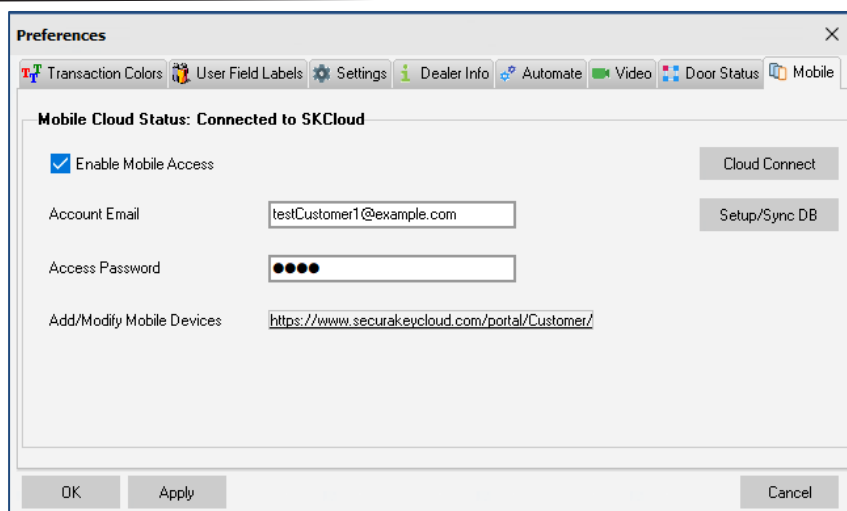

Figure 2 – SK-NET Mobile Preferences Screen
In SK-NET, click on **File**, then **Preferences**, then **Mobile** to display the Mobile Preferences Screen (Figure 2).
- Logon to your portal (Figure 4), using the same **Access Password** and **Account email** that you entered into the Mobile Preferences Screen (Figure 2).